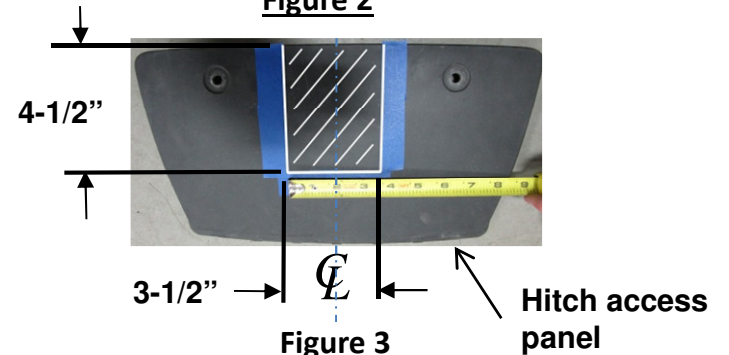

Figure 3
9. **Trim hitch access panel** – using a tape measure, marker, and a utility knife, cut a notch in hitch access panel approximately 3-1/2" wide x 4-1/2" deep. **See Figure 3.**
*** Or return hitch access panel and (2) push pin rivets to vehicle owner.**
9. **Trim hitch access panel** – using a tape measure, marker using a utility knife, cut a notch in hitch access panel approximately 3-1/2" wide x 4-1/2" deep. See figure 3. * Or return hitch access panel and (2) push pin rivets to vehicle owner.